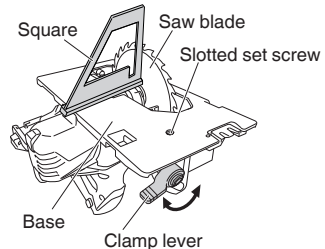

Fig. 30
- (1) Turn the base face up (Fig. 30) and loosen the clamp lever.
- (2) Apply a square to the base and the saw blade and turning the slotted set screw with a slotted-head screwdriver, shift the position of the base to produce the desired right angle.